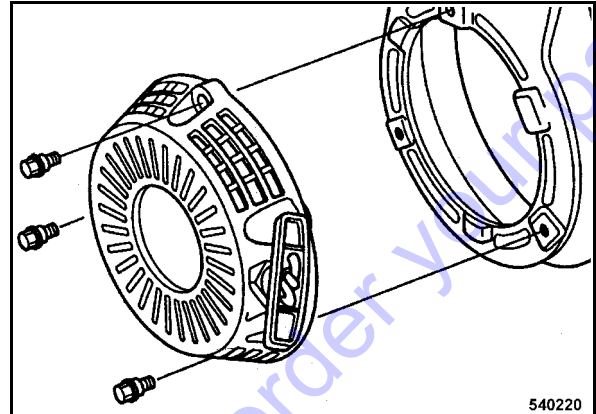

Fig. 66
- Disassemble the recoil starter from the engine housing (Fig. 66).